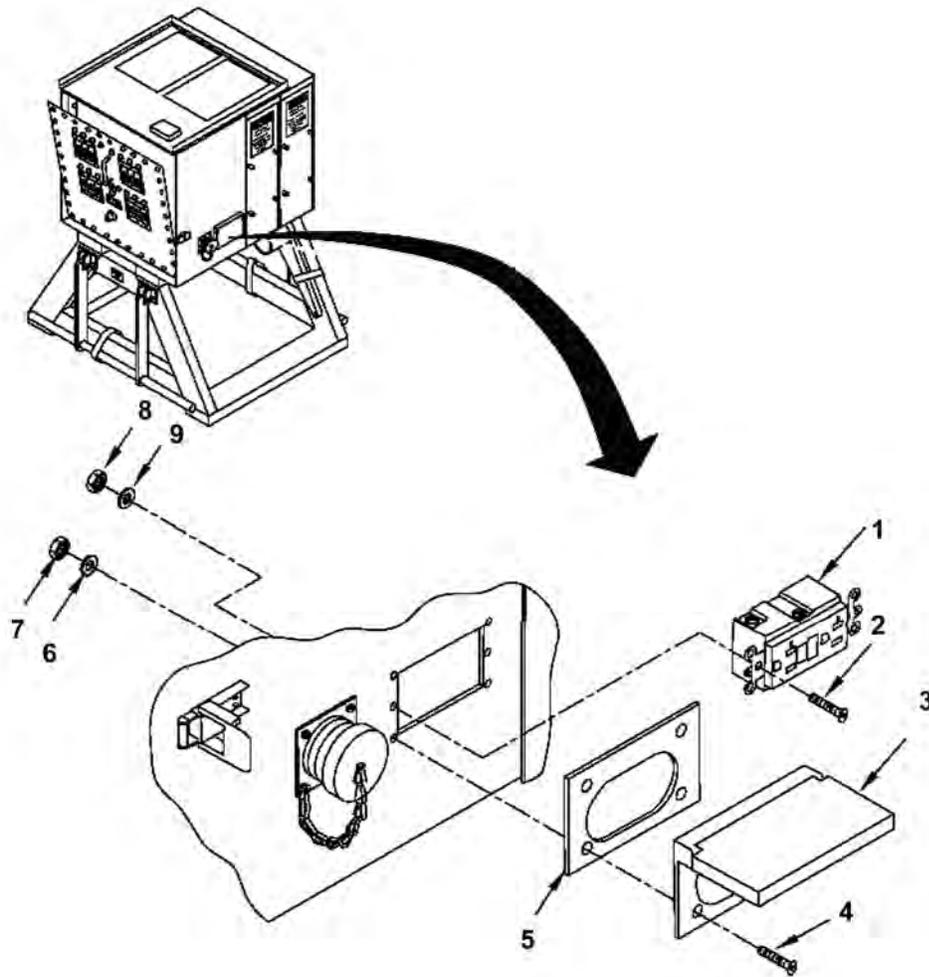

Figure 1. Duplex Receptacle (GFCI) and Protective Cover.
7. Position GFCI receptacle (Figure 1, Item 1) and secure to PDB by installing two screws (Figure 1, Item 2), two flat washers (Figure 1, Item 9) and two lock nuts (Figure 1, Item 8).
8. Attach two wires to rear receptacle (Figure 1, Item 1) and remove tags.
9. Position gasket (Figure 1, Item 5) and weather cover (Figure 1, Item 3) and secure by installing four screws (Figure 1, Item 4), four flat washers (Figure 1, Item 6) and four lock nuts (Figure 1, Item 7).